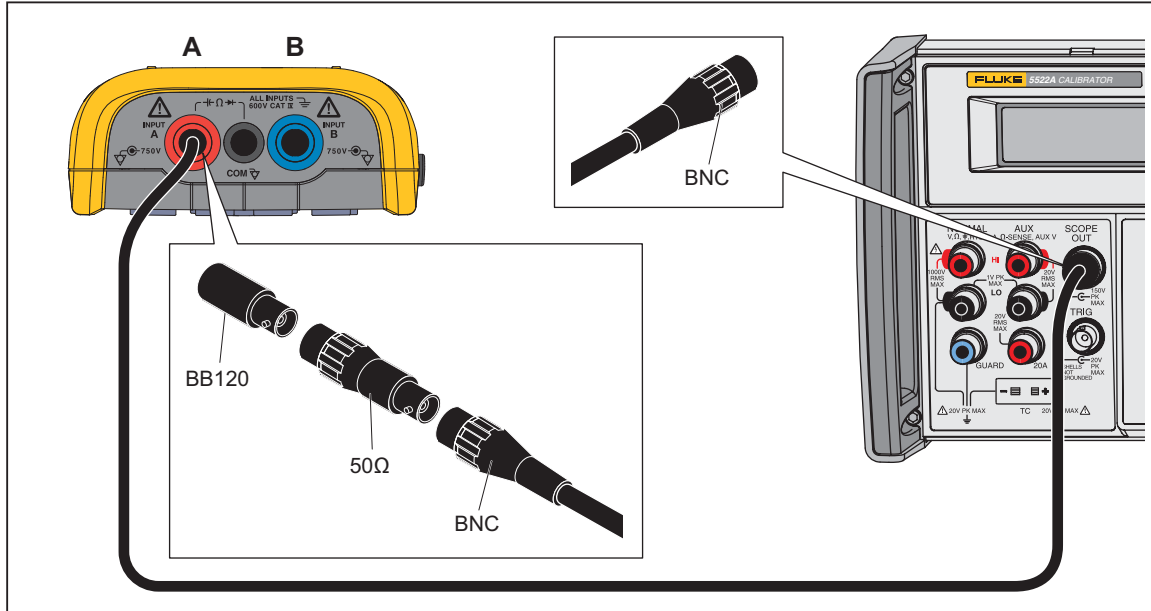

Figure 3. Test Tool Input A to Calibrator Scope Output 50 Ω
1. Connect the Test Tool to the Calibrator. See Figure 3.